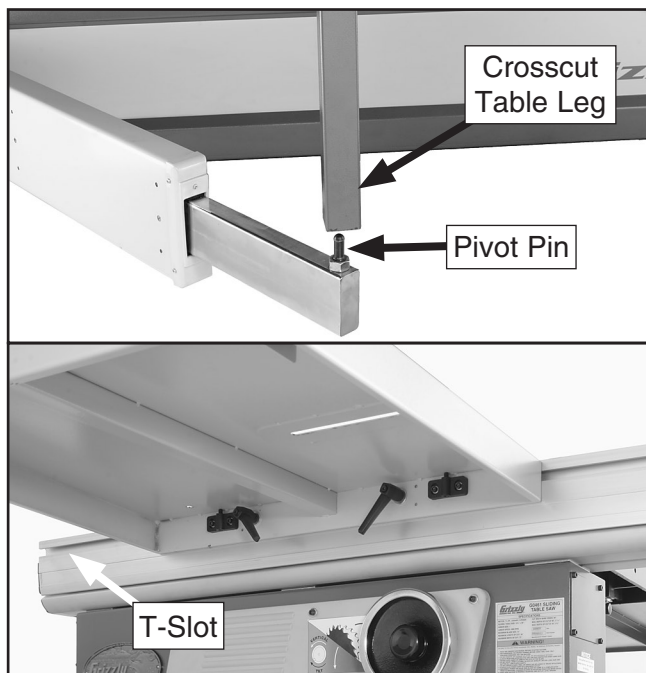

Figure 43. Installing the crosscut table.
3. With the help of an assistant, place the crosscut table on the pivot pin of the swing arm and over the studs of the lock plate (see **Figure 43**).